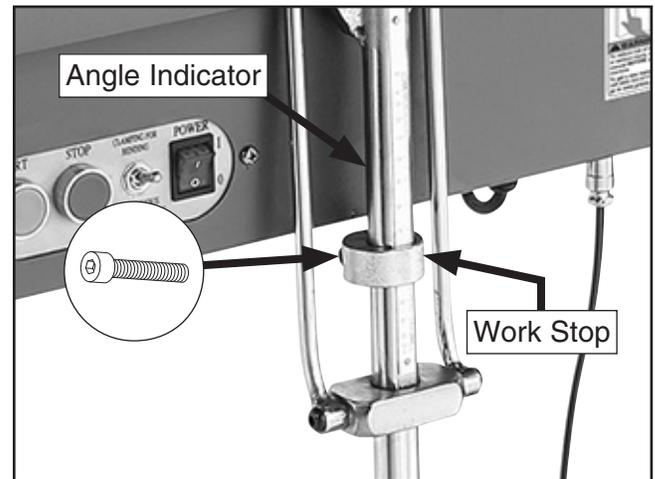

Figure 40. Bending stop controls.
1. Loosen clamping cap screw on bending stop collar (see **Figure 40**) so stop collar is loose on angle indicator shaft.